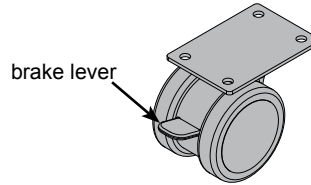

Figure 9
1. To lock the caster rotation, press the brake lever. **Figure 9.**